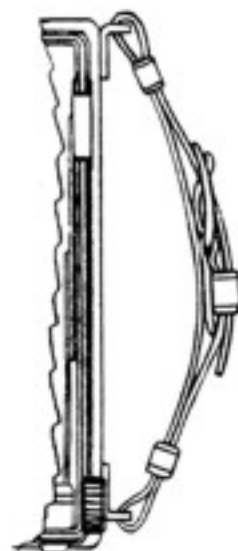

Figure 2. Handle Assembly
- (3) The handle is assembled as shown in Fig. 2.